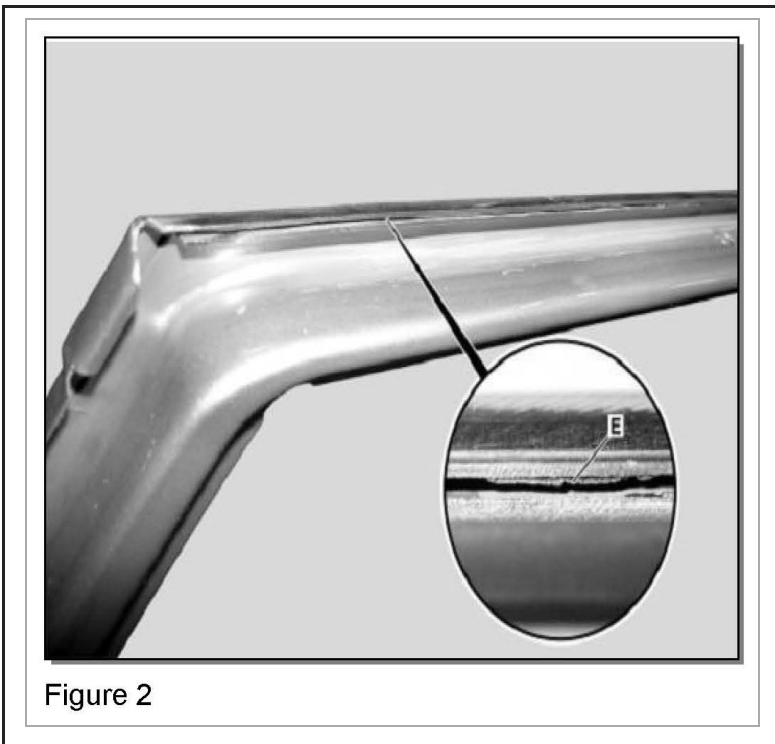

Figure 3
4. Corrosion effects in area (Figure 2, E) after cutting off the fold or in visible area where **paint** cannot be touched up on outside door panel and corrosion on lower inside of door which cannot be touched up with a brush. (Figures 3 & 4), doors must be replaced. Wax inside of door frames and window frames then install rubber seals.